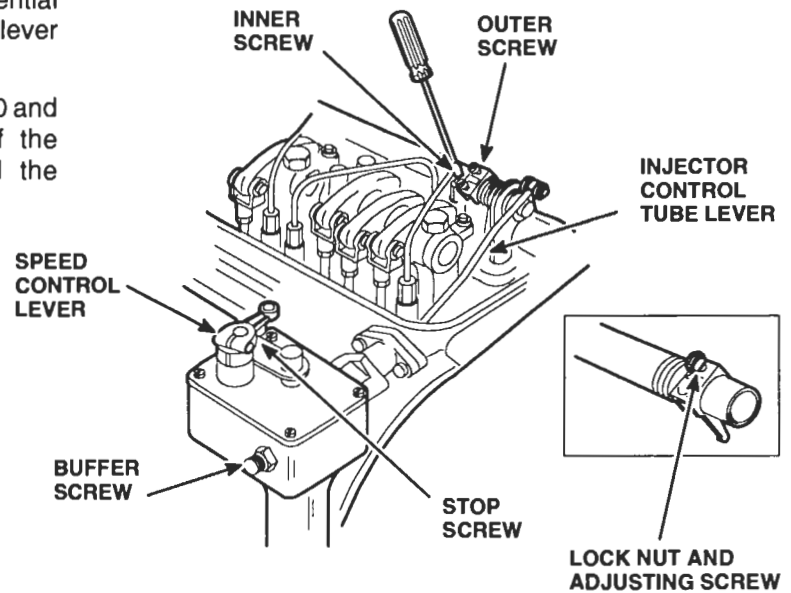

Figure 3. Positioning No. 1 Injector Rack Control Lever
5. Remove the fuel rod from the differential lever and the injector control tube lever (Figure 3.)